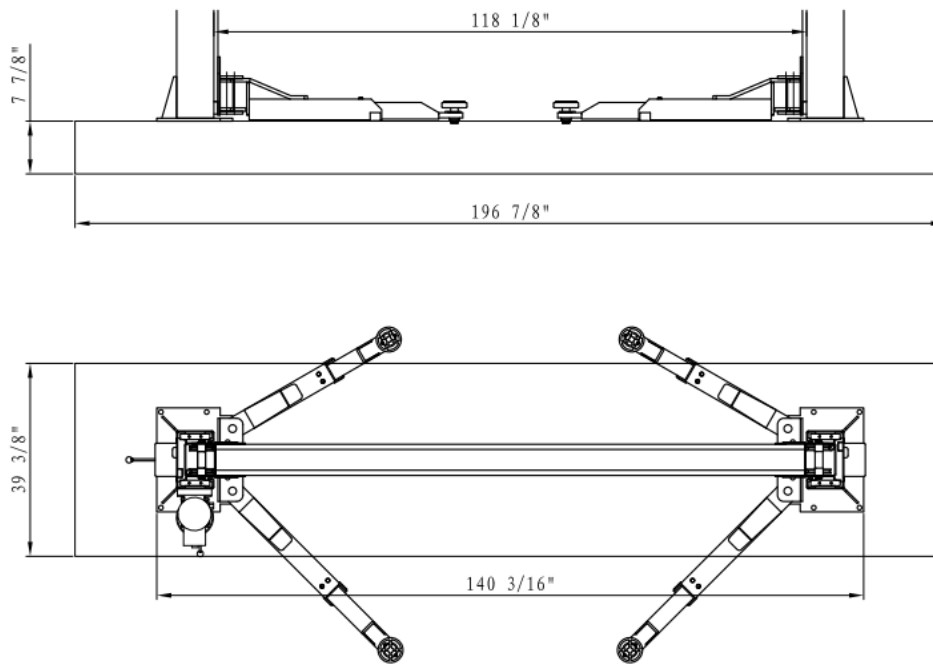

Fig. 4 – Symmetric Installation Floor Plan
- Now locate the lift according to the floor plan the figure 4 & 5, use a carpenter's chalk line to layout a grid for the column locations.